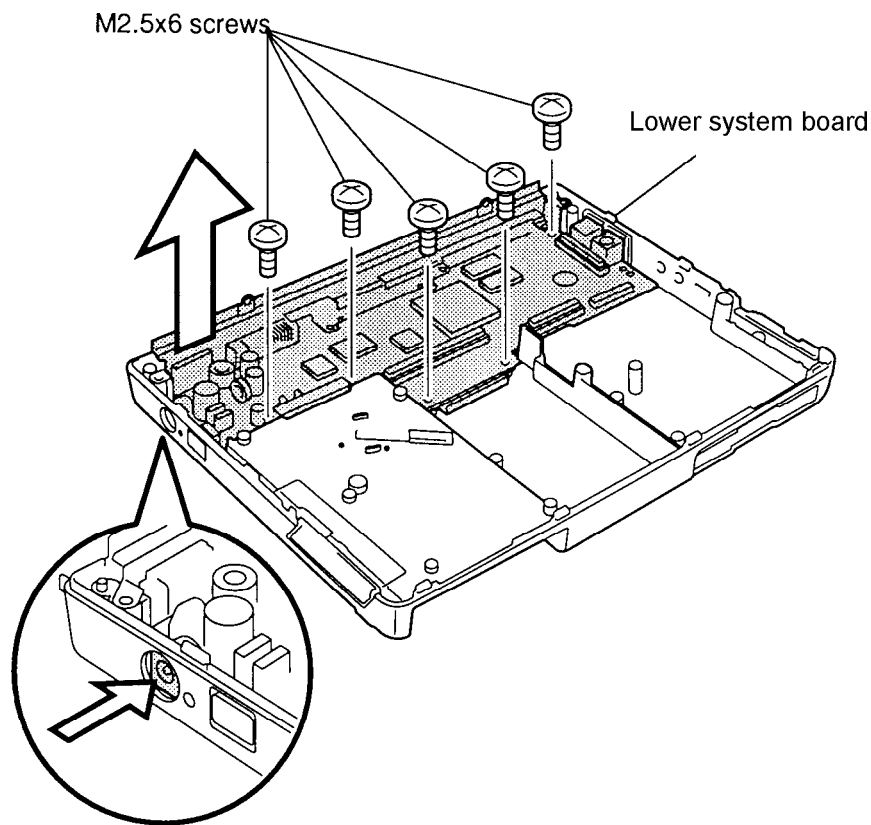

Figure 4-29 Removing the lower system board
To remove the T2450CT's system board, follow the steps below and refer to figure 4-29.
3. Remove **five M2.5x6 screws** on the system board (figure 4-29).
To install the T2450CT's lower system board, follow the steps below and refer to figure 4-29.
1. Place the **system board** on the bottom cover, and secure **five M2.5x6 screws** on the system board (figure 4-29).